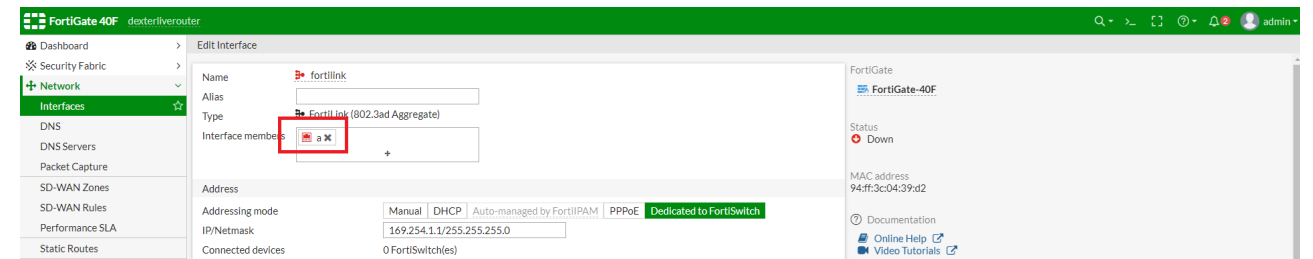

Figure 19
12. Remove the 4th port (port A-) by selecting the "x" next to the "a" under "Interface Members" (Figure 19)